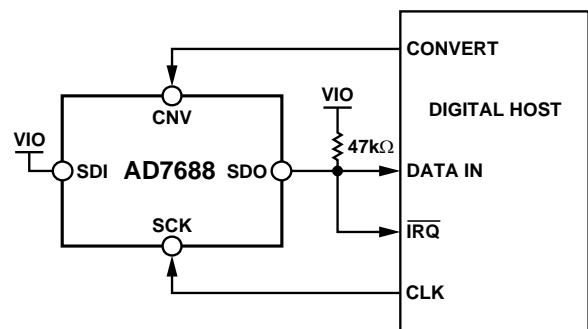
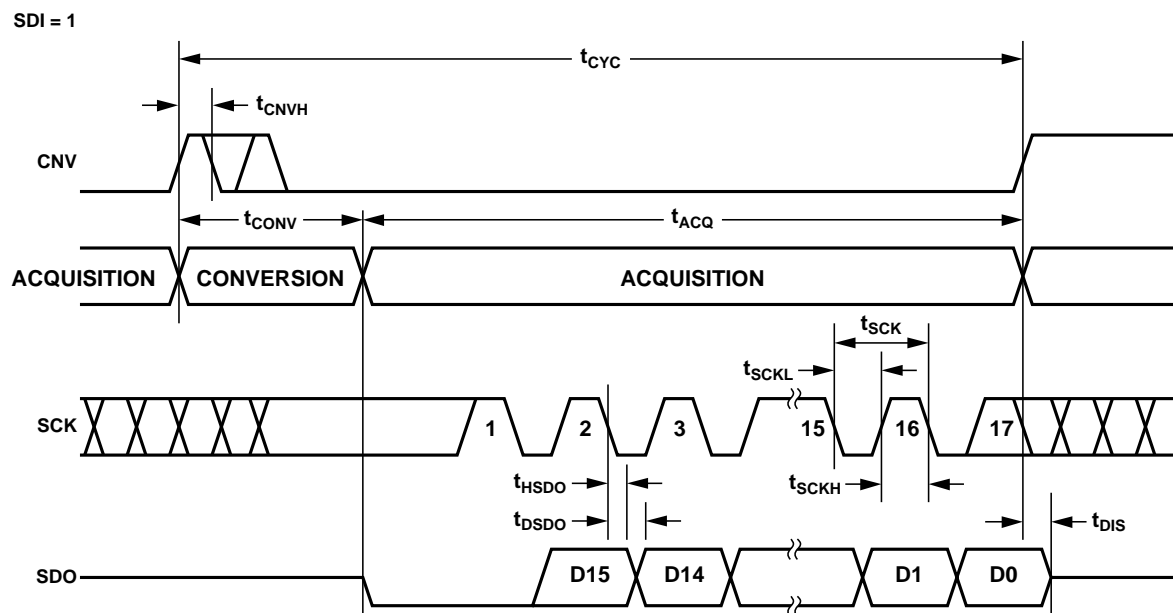
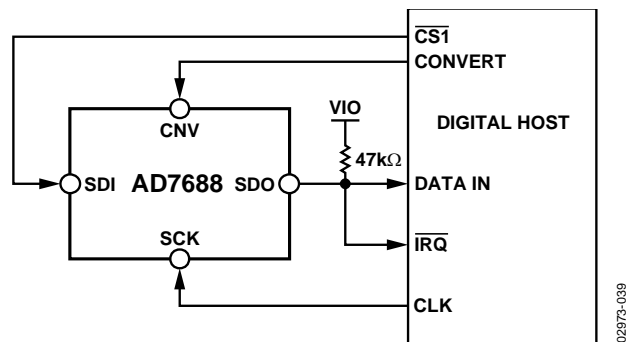
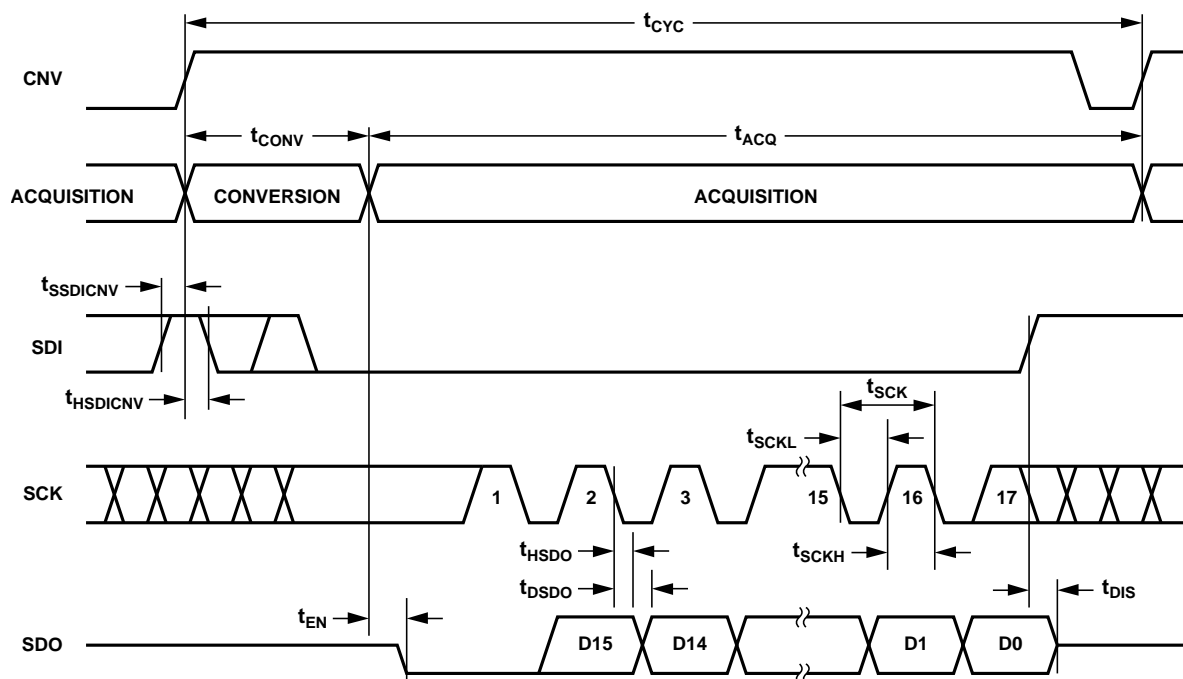

Figure 36. \overline{CS} Mode 3-Wire with BUSY Indicator Connection Diagram (SDI High)
Figure 37. \overline{CS} Mode 3-Wire with BUSY Indicator Serial Interface Timing (SDI High)
Figure 40. $\overline{\text{CS}}$ Mode 4-Wire with BUSY Indicator Connection Diagram
Figure 41. $\overline{\text{CS}}$ Mode 4-Wire with BUSY Indicator Serial Interface Timing
- In the \overline{CS} mode, if CNV or SDI is low when the ADC conversion ends (Figure 37 and Figure 41).
The connection diagram is shown in Figure 36 and the corresponding timing is given in Figure 37.
The connection diagram is shown in Figure 40 and the corresponding timing is given in Figure 41.